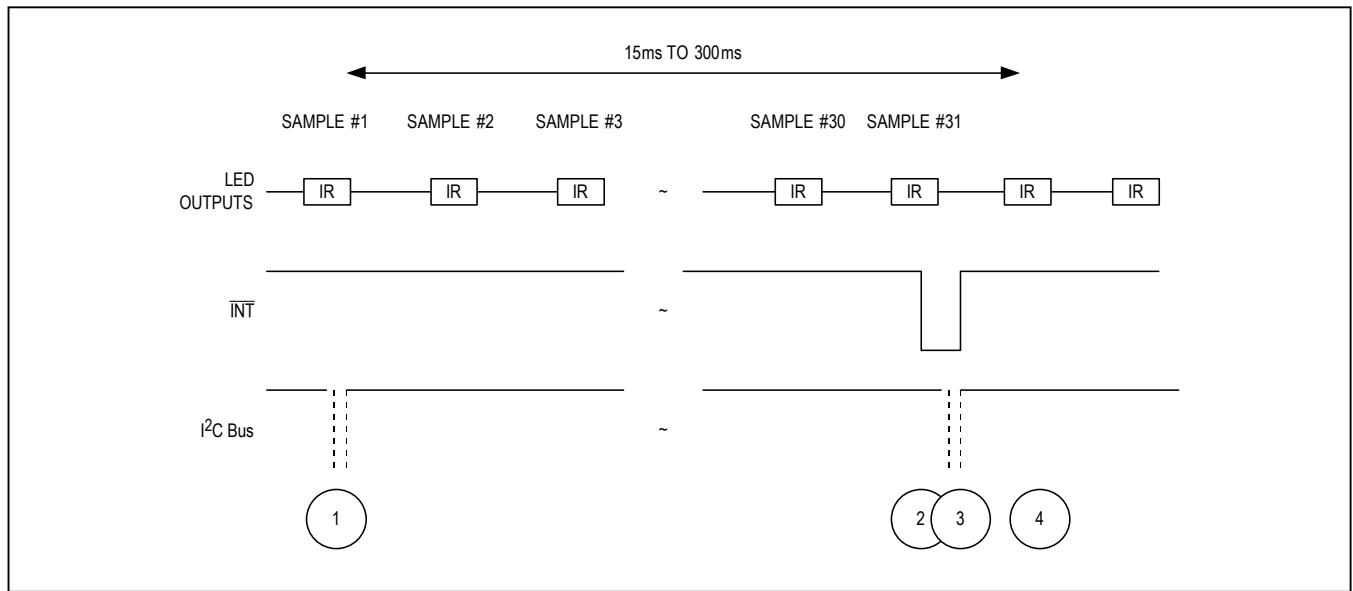

Figure 5. Timing for Data Acquisition and Communication When in HR Mode
The internal FIFO stores up to 32 samples, so that the system processor does not need to read the data after every sample. In HR mode (Figure 5), unlike in SpO2
**Table 16. Events Sequence for Figure 5 in HR Mode**